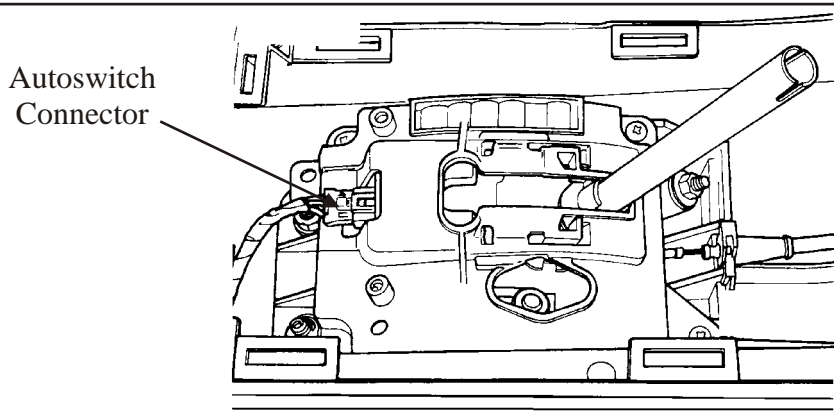
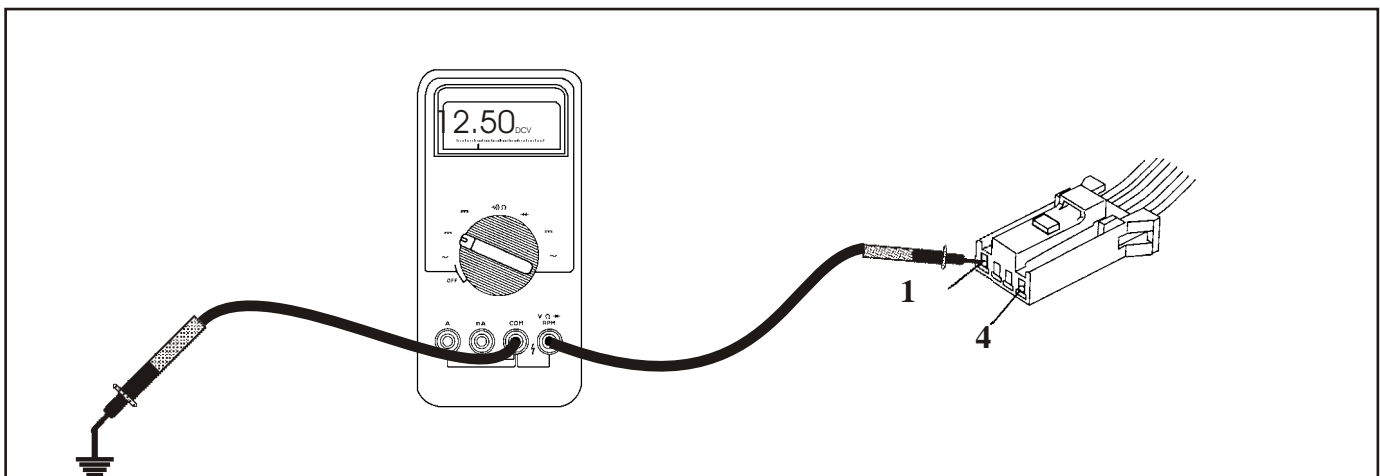

Figure 66
Figure 67
- Locate and unplug the Autostick Switch in the center console (See Figure 66). Using a volt meter, turn the ignition ON and place the negative lead to ground. With the positive lead check for battery voltage at pin 1 in the Autostick connector (See Figure 67). If voltage is seen go to the next step. If voltage is not seen, check for a blown fuse. LH vehicles check fuse # 17, all others check fuse # 11. If the fuse is good, the wire from the fuse to pin 1 is severed and will need to be repaired or replaced.